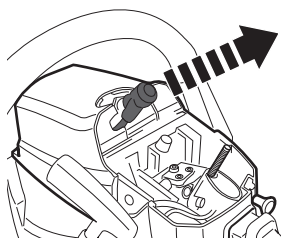

Fig. 58
- > Remove the air filter cover (13) and air filter (14) as described. Disconnect the spark plug connector (15) (Fig. 58).